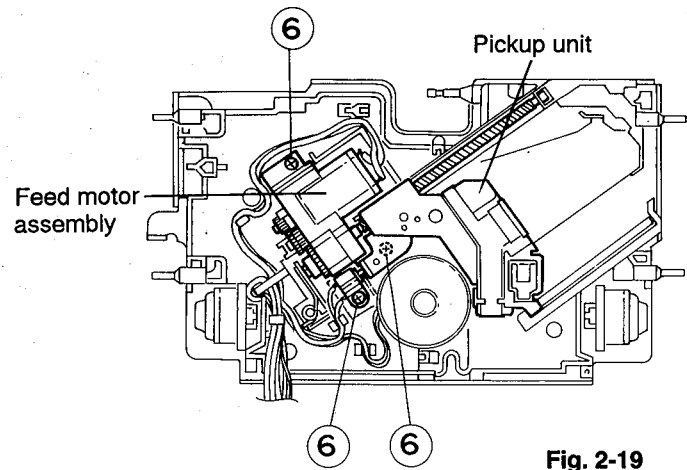

Fig. 2-19
6. Remove the three screws ⑥ retaining the feed motor assembly and take out this motor assembly (See Fig. 2-19).